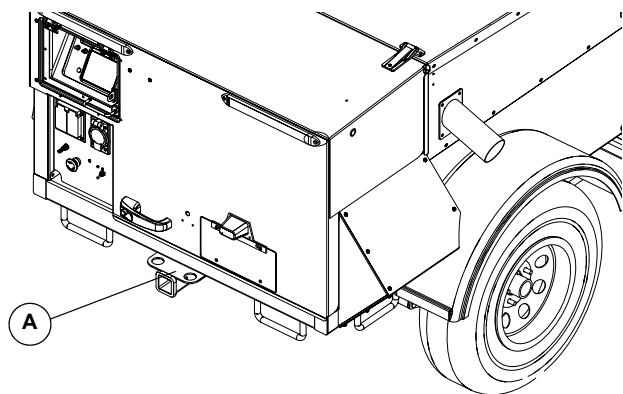

Figure 3-12. Tandem Tow Hitch
See **Figure 3-12**. The tandem tow hitch (A) allows the operator to tow a second MLT4060MVD Light Tower in series behind the unit. See **Tandem Towing Safety** in Section 1 for more information.